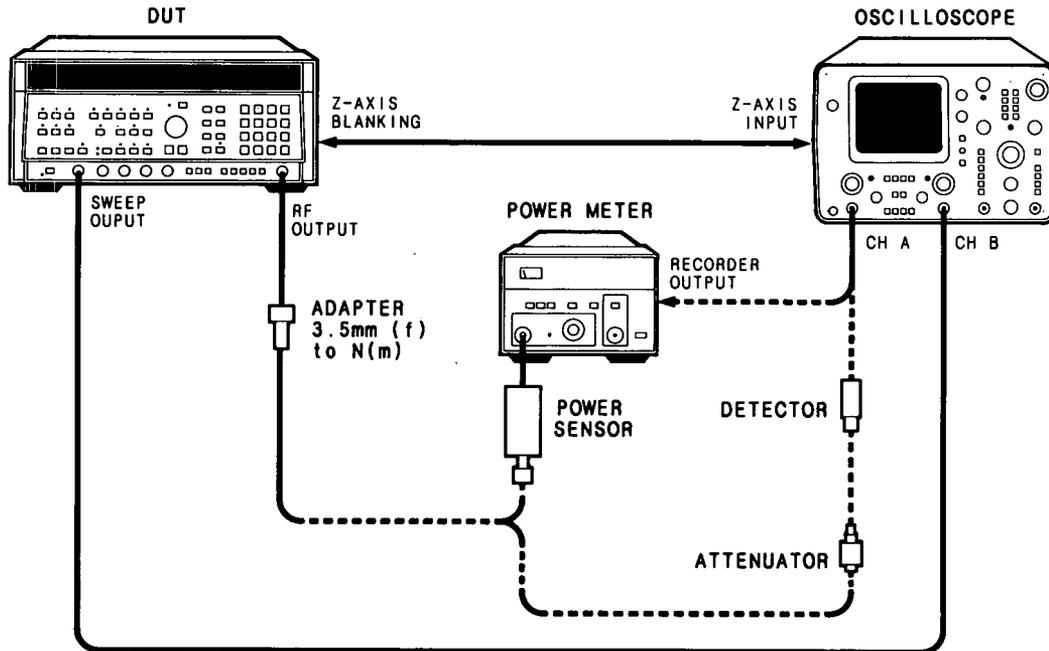

Figure 4-5. Maximum Leveled Output Power and Power Accuracy Test Setup
1. Connect the equipment as shown in Figure 4-5. Connect the 10 dB pad and crystal detector to the DUT RF output and connect the detector output to the oscilloscope channel A input. Allow the equipment to warm up for one hour.